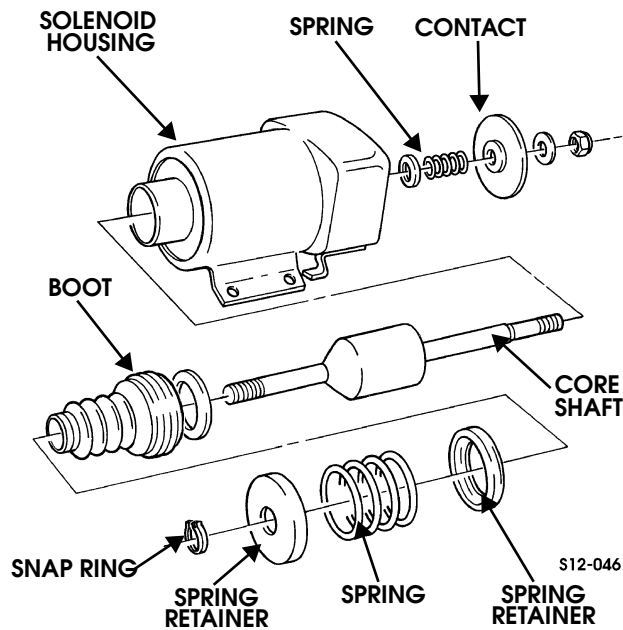

Figure 12-62: Solenoid Components
25. Holding core shaft, remove locknut, washer, and contact from core shaft (Figure 12-62).
27. Remove snap ring, spring retainer, spring, spring retainer, rubber boot, and washer from core shaft (Figure 12-62).